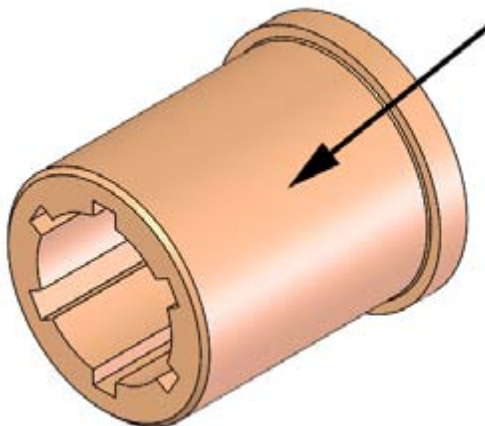

Figure 39. Spreading area of the waterproof grease
1. Spread waterproof grease in the area around the bearing indicated in figure 39 .